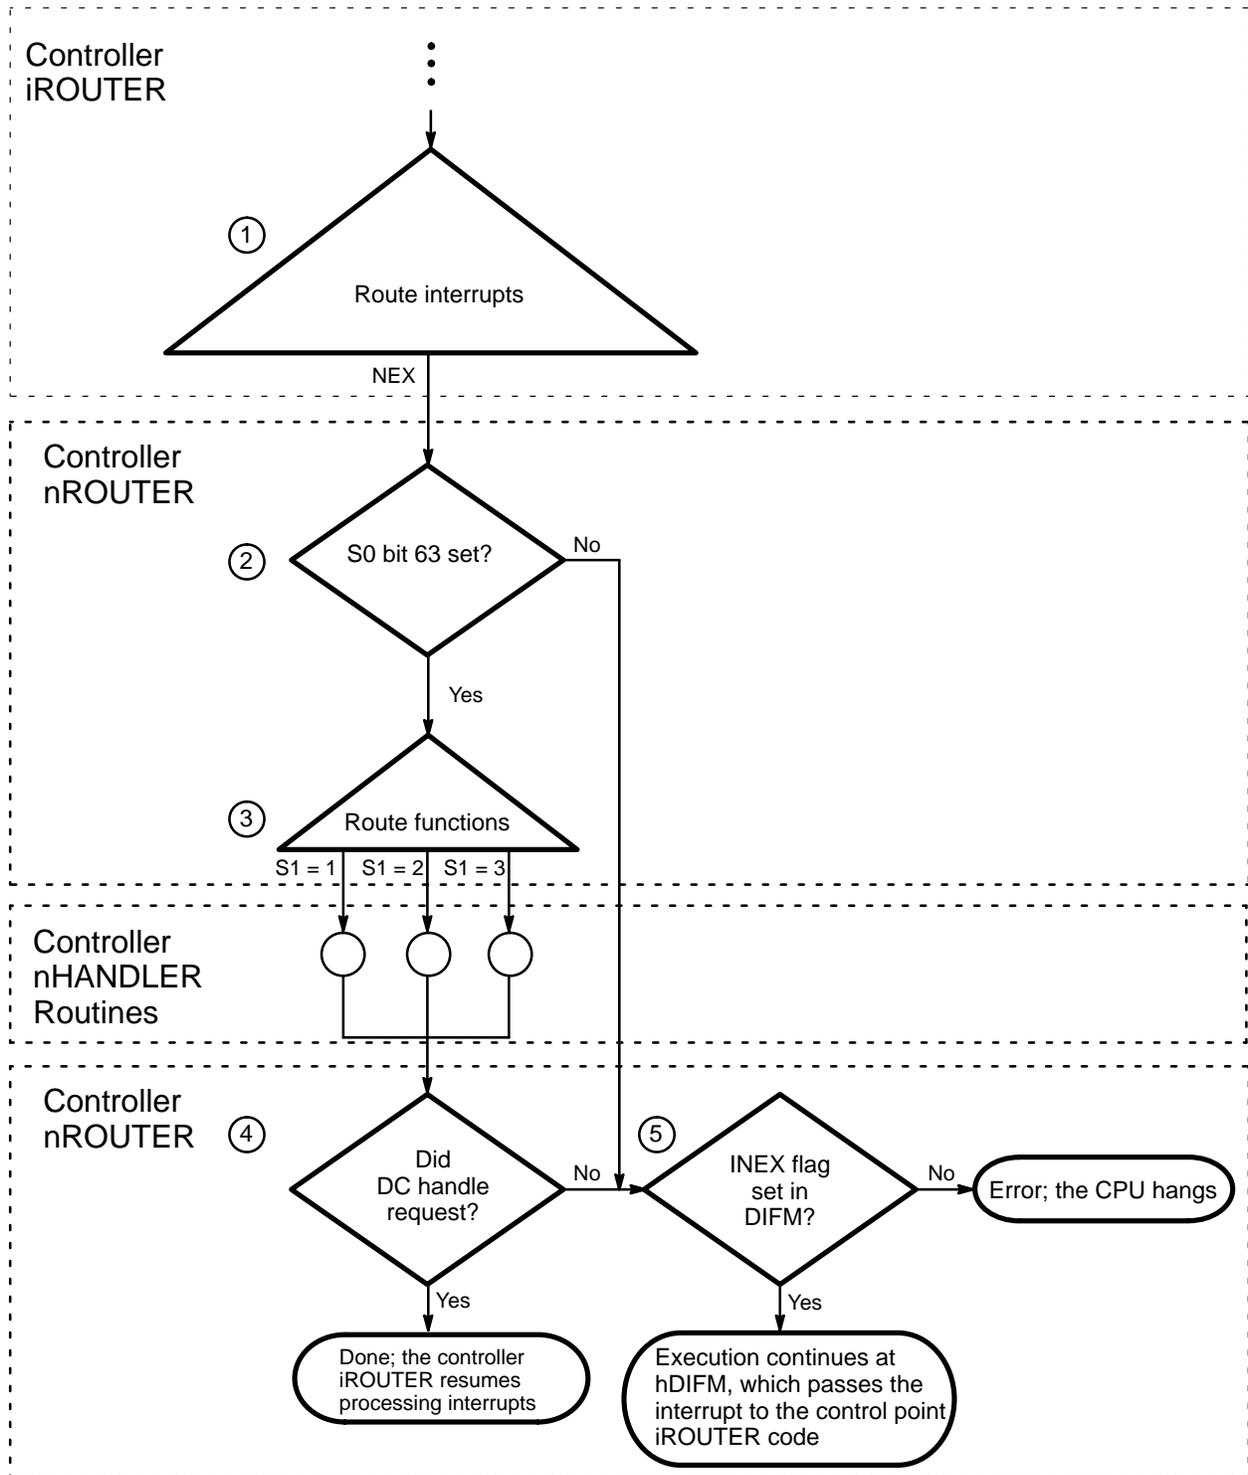

Figure 42. Normal Exit Interrupt Processing
Figure 42 is a flowchart of normal exit interrupt processing. The circled numbers in Figure 42 correspond to the numbered steps in the text that follows the figure.
- If the request was handled, normal exit processing is complete. Interrupt processing resumes in the controller iROUTER code, which Figure 42 shows.